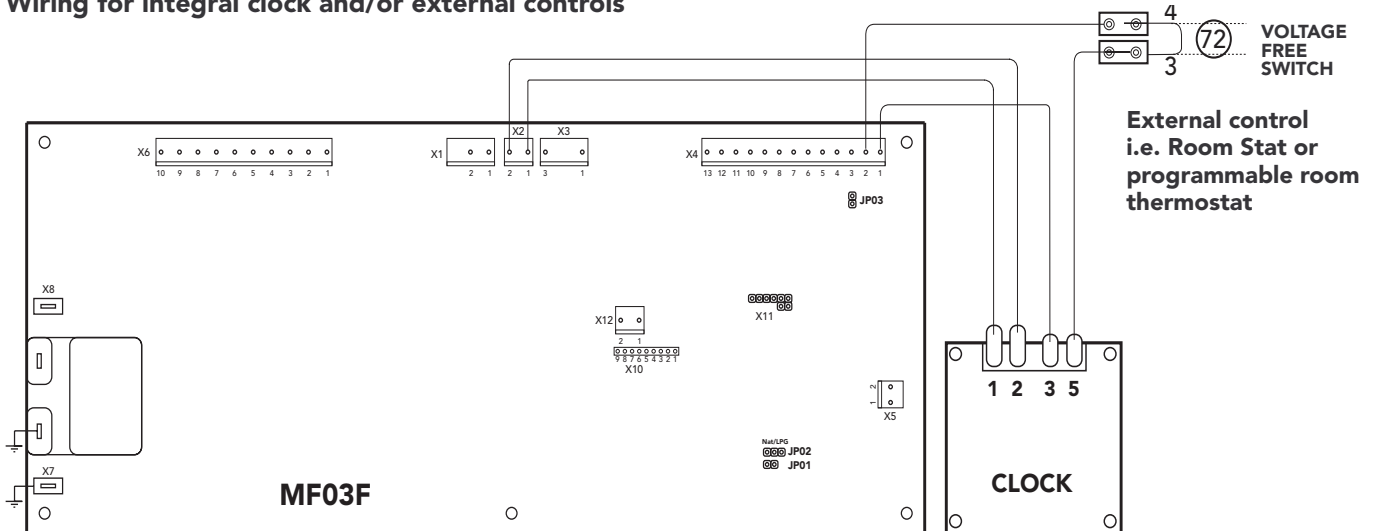

Fig. 21b
3.12 Installing a room thermostat (72) (fig. 21b)
Connect the room thermostat (72) as shown in figure 21b.